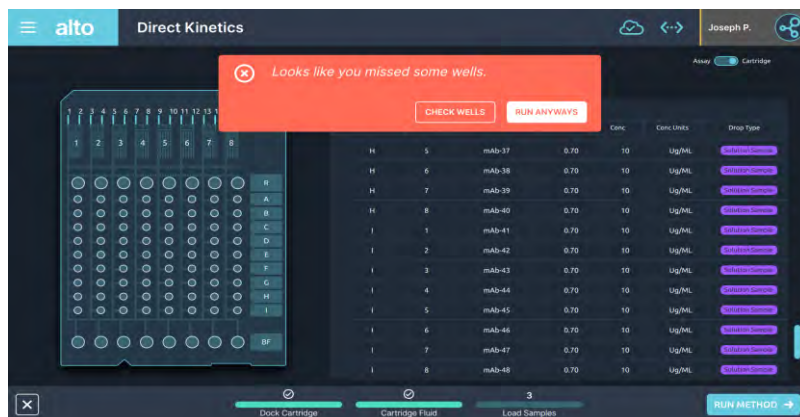

Figure 5.38. Warning screen to confirm if the user does not select all the wells that needed to be filled with the samples.
1. To start the test, click on the “RUN METHOD” button at the bottom right corner of the software. A warning will appear (Figure 5.38) to confirm if the user does not select all the wells that need to be filled with samples.